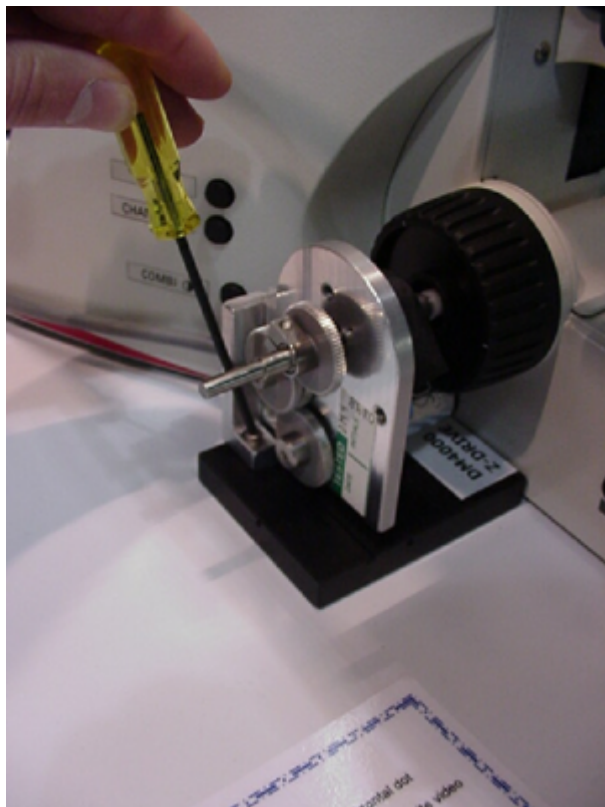

Figure 9: Horizontal Adjustment screw
- c) Rotate the drive so that the tab on the bottom of the adjustment bar fits into the groove on the baseplate. Install, but do not completely tighten, the vertical adjustment screw (figure 9) to hold the drive in place. Please Note: the baseplate may need to be moved to properly align the adjustment bar.